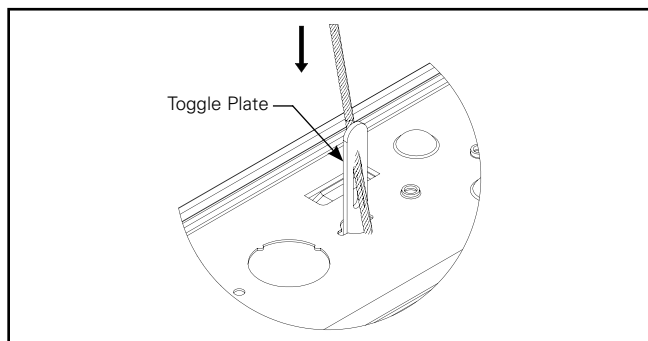

Figure 4.2.
- Keep toggle plate length side perpendicular to channel top surface and insert into hole (Figure 4.2).